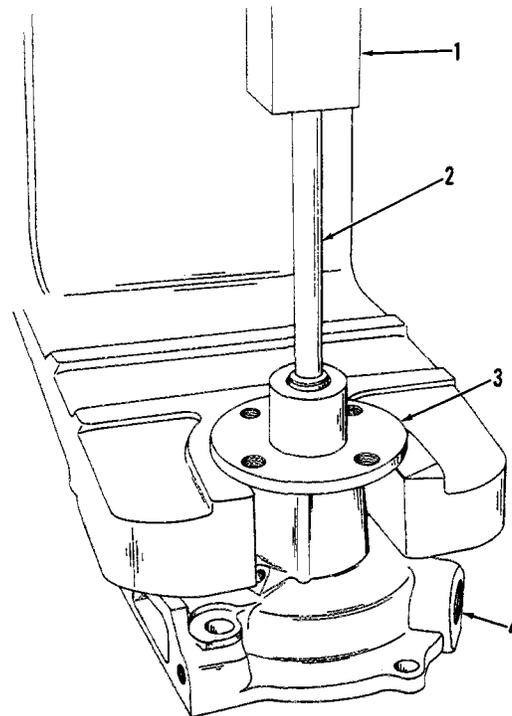

FIG. 6 REMOVING WATER PUMP PULLEY HUB
- a. Place water pump assembly in position on a press and remove the pulley hub, Fig. 6.